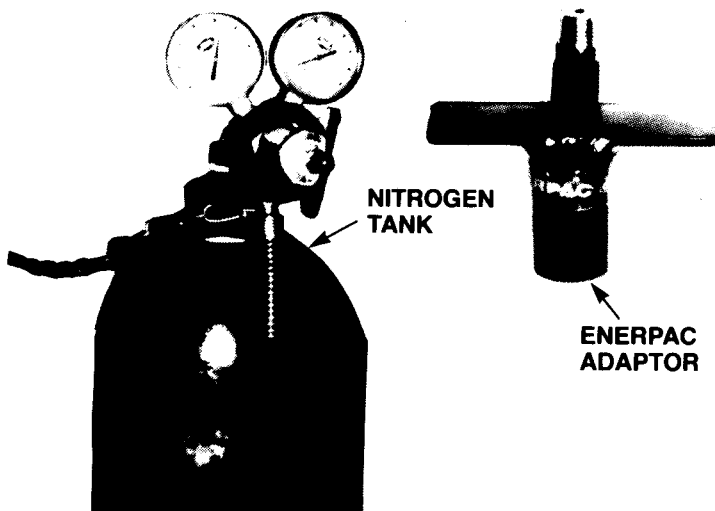

Figure 2
- (1) Nitrogen tank with gauges and hoses.
- (2) ENERPAC adaptor Model No. WAT-1 (Figure 2).